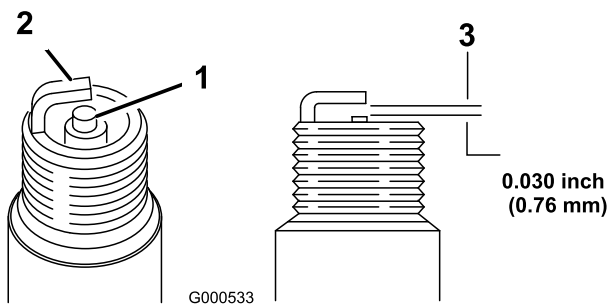

Figure 33
5. Set the gap on the plug to 0.76 mm (0.030 inch) as shown in Figure 33.